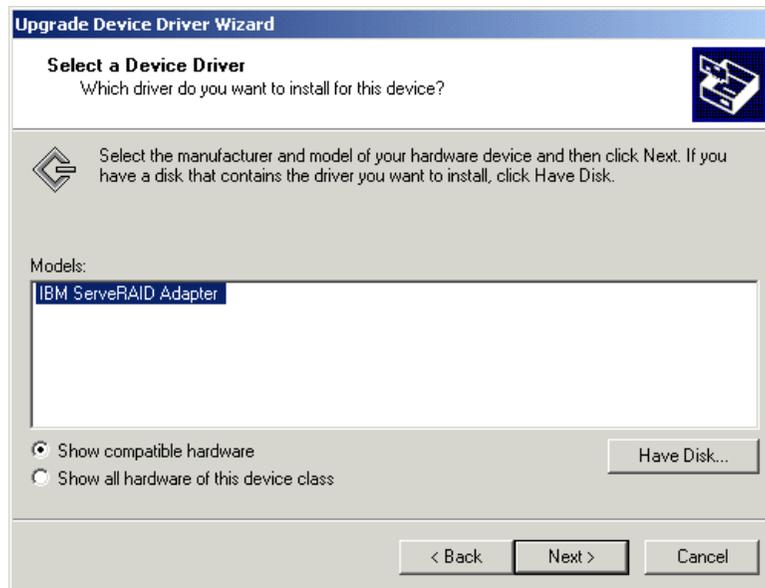

Figure 69. The Upgrade Device Driver Wizard (continued)
6. Select **Display a list of the known drivers for this device so that I can choose a specific driver** and click **Next**. You will see a window similar to Figure 69: